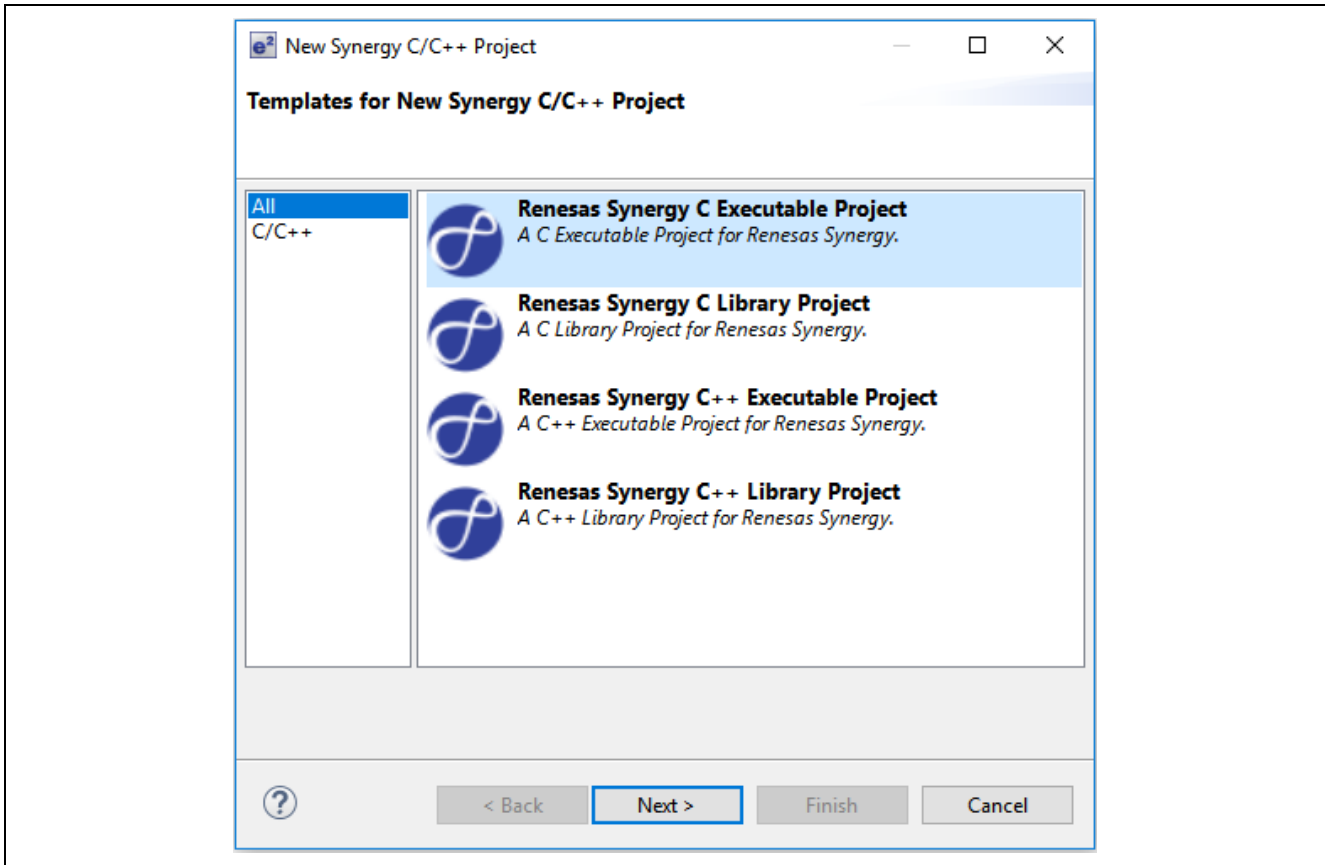

Figure 3. Choose “Renesas Synergy C Executable Project”
3. Choose **Renesas Synergy C Executable Project** and click **Next** (see Figure 3).